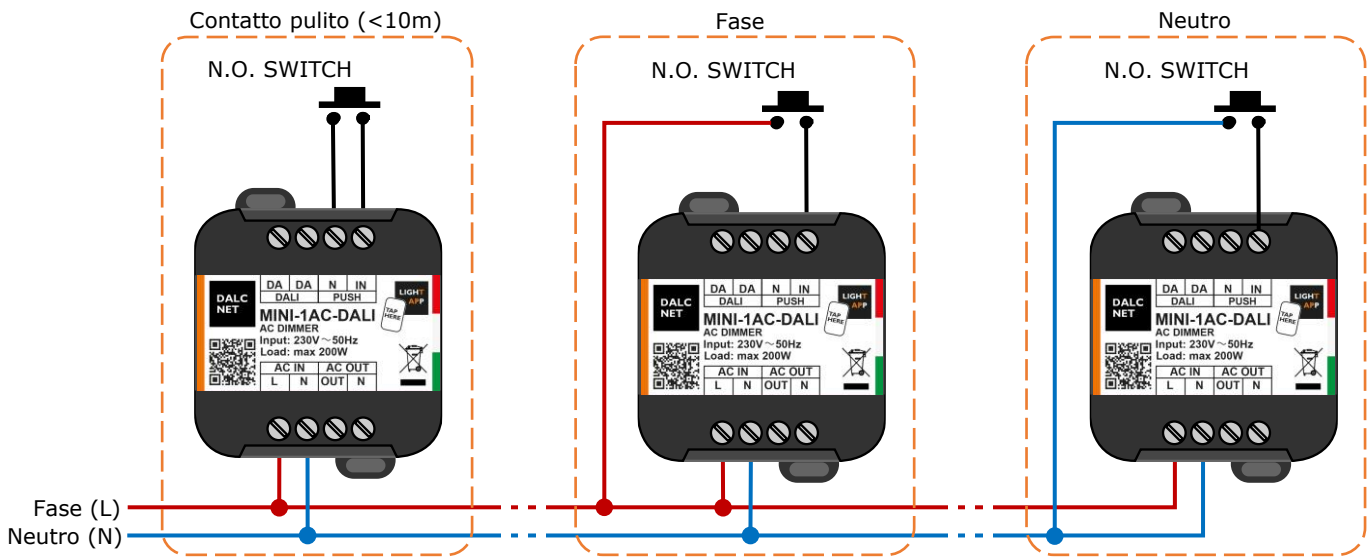

Figure 3: Local Command wiring diagram
- Local control wiring:** connect the N.O. button to the "IN" and "N" terminals of the "PUSH" input respecting one of the wirings shown in the connection diagram in Figure 3.
- Power supply wiring:** Connect the 230 Vac @ 50 Hz mains power supply to the "AC IN" terminals respecting the Phase-Live (L) and Neutral-Neutral (N) convention to terminals "L" and "N" respectively.
Figure 3 shows three different wiring possibilities for the local control: N.O. switch connected as a dry contact (for distances less than 10m), connected to Phase (L) or Neutral (N).